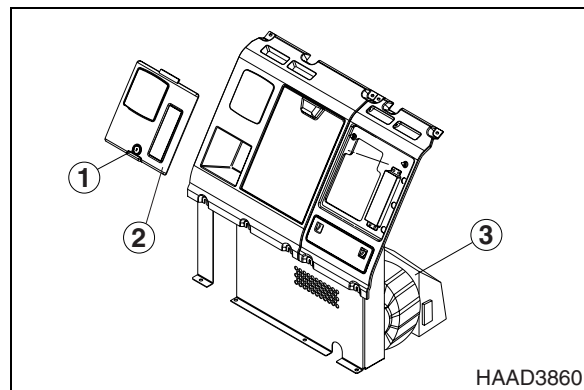

Figure 56
1. Turn the key cylinder (1, Figure 56) to open cover (2, Figure 56) behind operator's seat.
3. Remove cover (2, Figure 56) from the rear box.
4. Remove filter cover (3, Figure 56) from air conditioning unit.